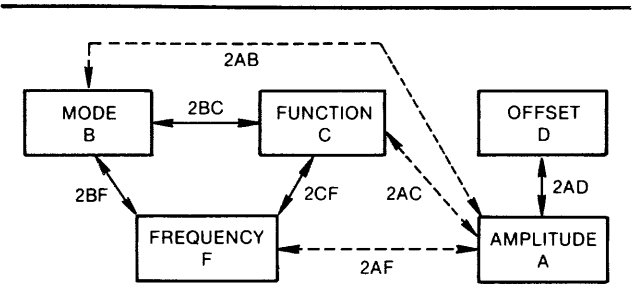

Figure 3-13. Class 2 Errors
Class 2 errors are parameter conflicts or inconsistencies such as $2 \times \text{ABS}(\text{OFST}) + \text{peak to peak amplitude}$ greater than 10.4V. Figure 3-13 shows the possible types of class 2 errors. Tests are made every time an execute (I) or GET is given. If no class 2 error is detected, all scratchpad values are transferred to the waveform memory (see table 3-4).